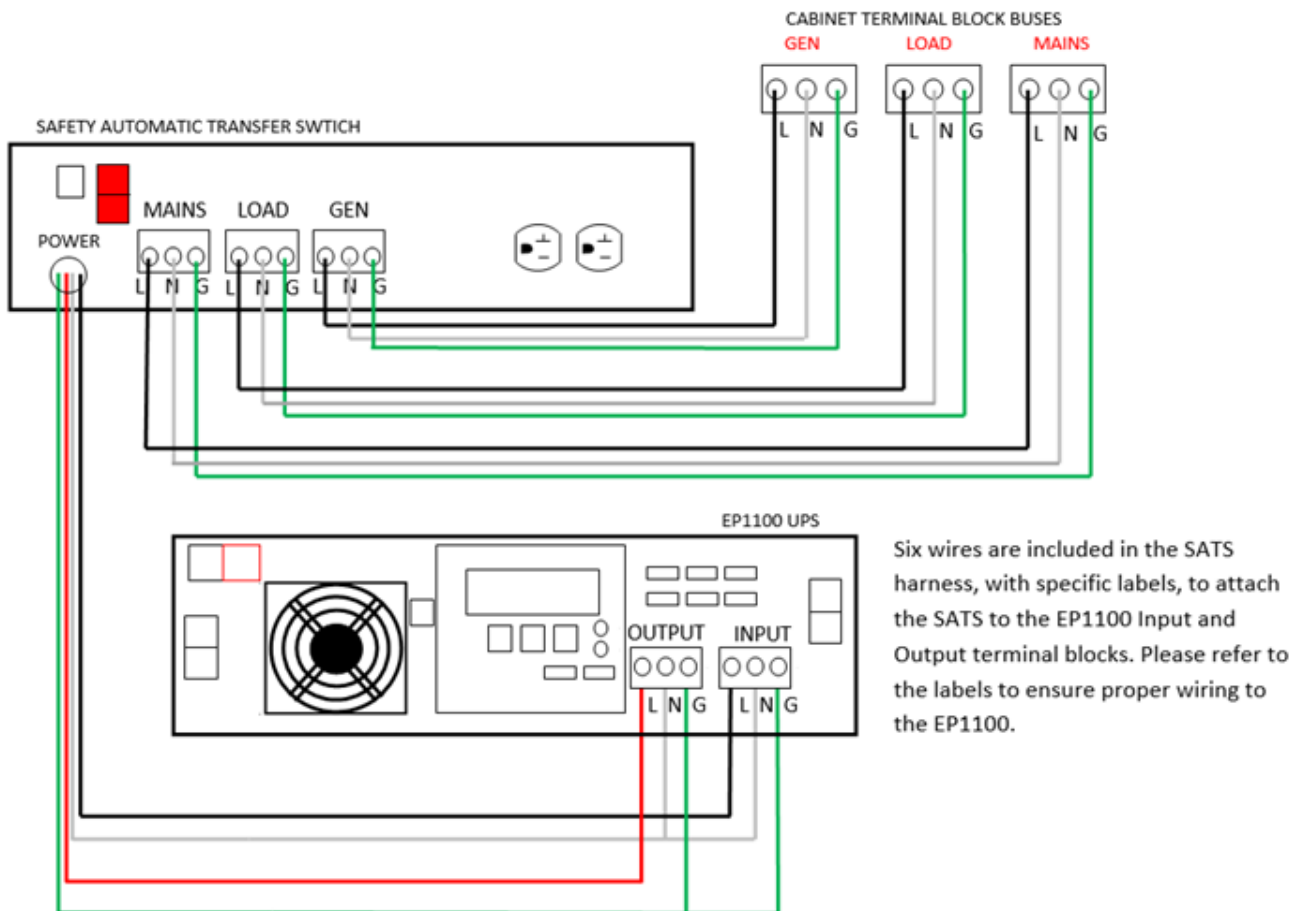

Fig. 4-1 SATS and EP1100 (Line Interactive) wiring example
Connect the MAINS, LOAD, GEN, and monitor wiring to the SATS according to the following procedure. Refer to Figs. 4-1 and 4-2 for control and connector positions.
3. Wire the SATS as shown in Fig 4-1. Recommended wire strip length of 7mm. Secure the screw terminal contacts with a max torque of 7.0Lbf-in.